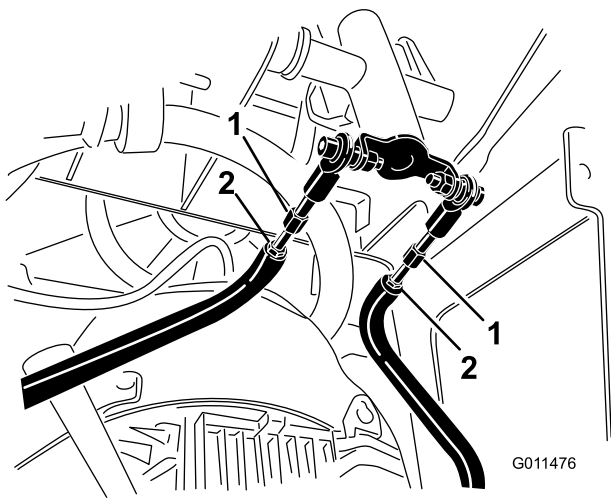

Figure 51
- D. Loosen the jam nuts on the traction rods, under the control panel (Figure 51).